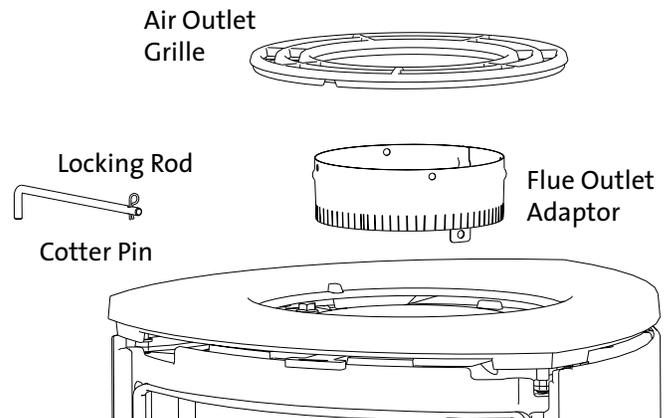

Figure 15. Installing the Outlet Adaptor and Flue Collar Grille.
2. Attach the crimped end of the first section of chimney connector to the Flue Outlet Adapter with sheet metal screws. Push the Outlet Adaptor fully into the flue collar. Fig. 15.